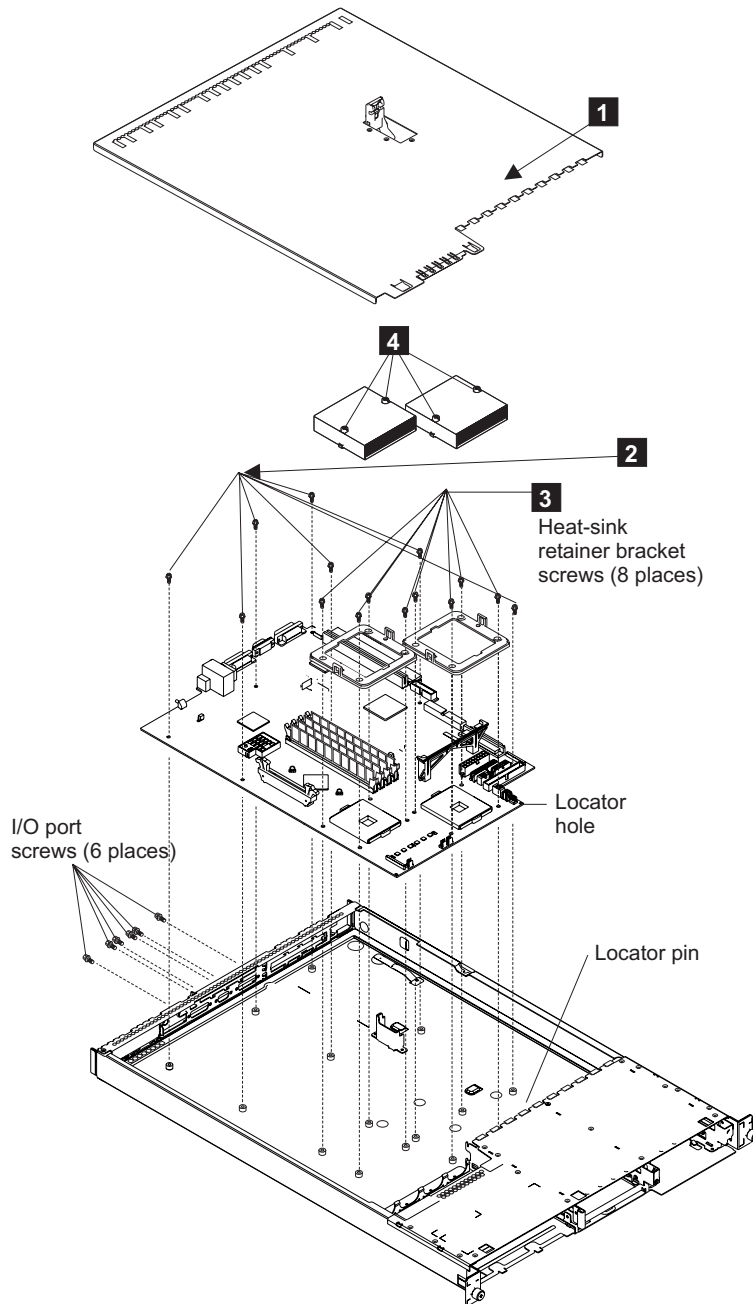

Figure 192. Replacing the system board
1. Replace the seven screws **2**. See Figure 192 on page 472.
4. Replace the screws from each of the heat sink retainer brackets **3**. See Figure 192 on page 472.